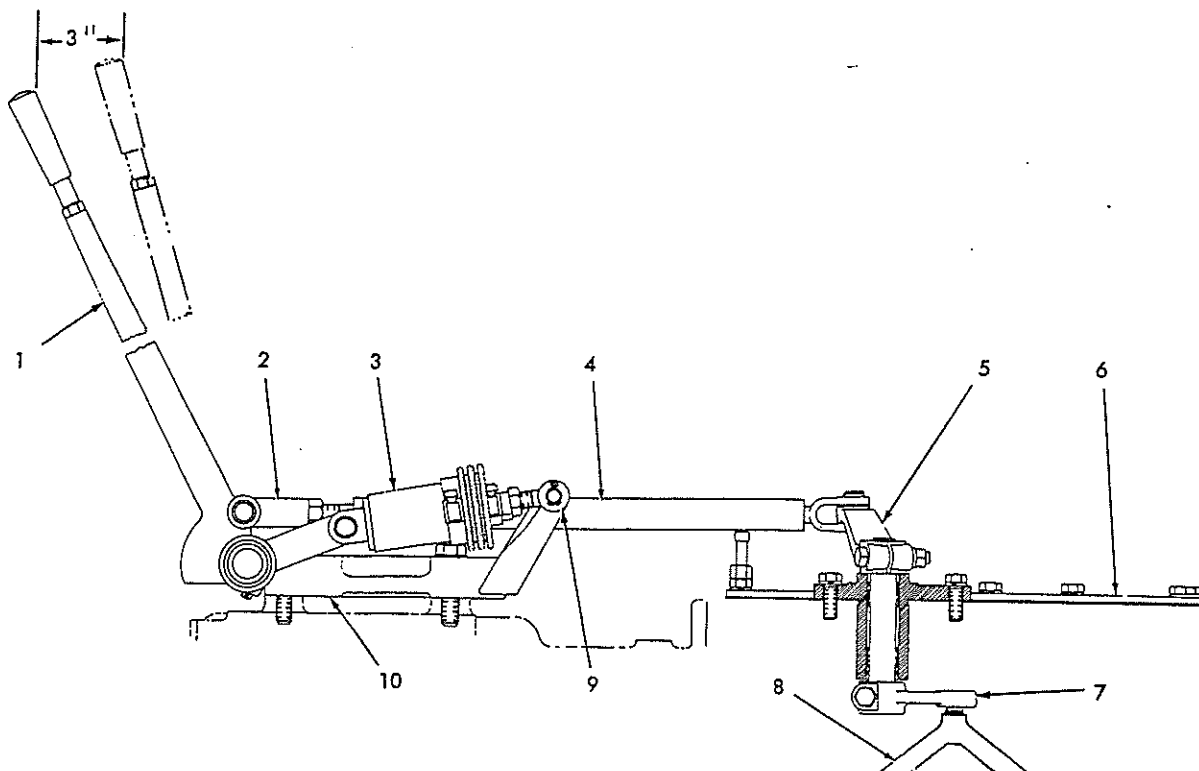

Fig. 21 -- HD11 (Prior To S/N 6069) Steering Control Linkage (T-20259)
Refer to Fig. 21 and adjust length of steering control rod (4) to obtain 3" free travel at top of steering lever (1); adjust length of rod by turning front yoke (2). Subsequent adjustments should be made when free travel diminishes to 1". When all adjustment in control rod (4) has been used, and free travel has diminished to 1", steering clutches need rebuilding. Adjust booster eye (9) to obtain proper "over-center" action.